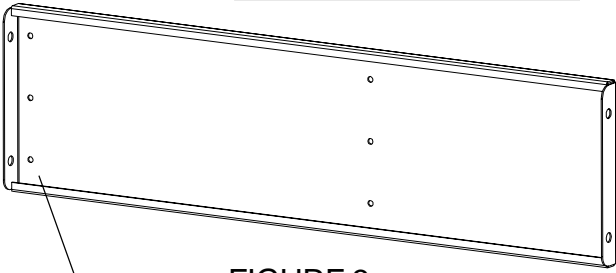

FIGURE 3
Determine which side you want your shelf to pull out from. Use **FIGURE 3** as reference. Attach the shelf support brackets to either set of holes (depending on your desired height) between the legs with screws (CC) as shown in **FIGURE 4**. Then separate each slide and attach the outer section to the inside of each shelf support bracket with screws (DD) and nuts (EE) as shown in **FIGURE 5**. **NOTE: Attach rear screw and nut first.**